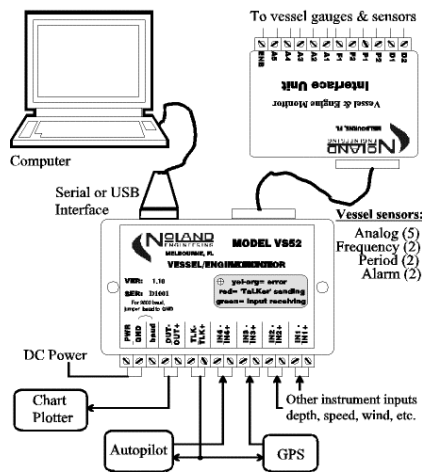

Figure 2. Vessel/Engine Monitor Typical Installation
- Figure 2 - Vessel/Engine Monitor Typical Installation
2. BASIC INSTALLATION. A typical installation is shown in Figure 2. All connections to NMEA 0183 instruments are made via a terminal strip. Vessel and engine sensor connections are made to the Interface Unit also via a terminal strip. The Interface Unit connects to the VS52(U) through a 14-pin ribbon cable. The unit begins operating as soon as power is applied. No initialization or setup is required. The PC connector provides 2-way data communication to/from the computer. Some configuration options are programmable (see Appendix A).
A typical VS52(U) installation with a computer connected might resemble Figure 2. A computer is present to collect all the data from onboard instruments and also to send steering commands to an autopilot and send waypoints to the GPS. The GPS provides position information while the autopilot provides heading. Any other instruments, such as a chartplotter, may obtain the combined instrument data from the **OUT+ / OUT-** terminals.